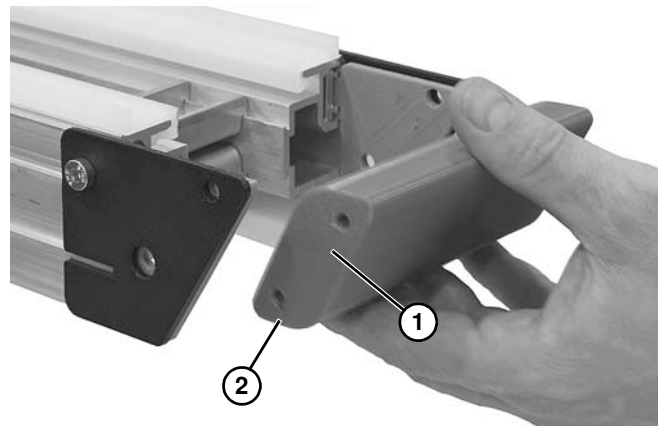

Figure 86
- Remove bar (**Figure 86, item 1**), flip 180°, and re-install bar.
*Bar may be flipped 180° to use second wear surface (**Figure 86, item 2**).*